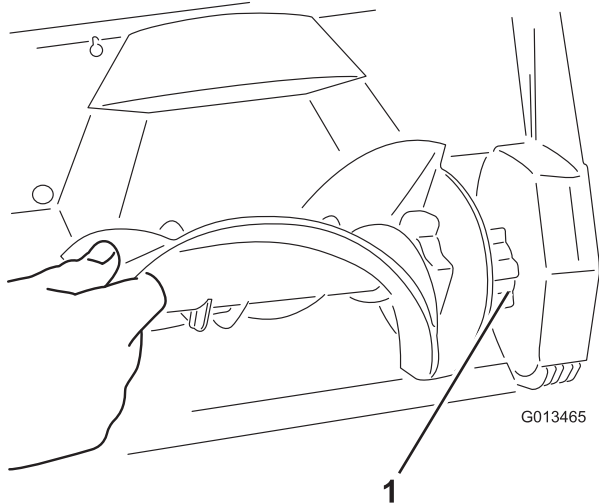

Figure 12
4. Install the new rotor by inserting the end of the rotor onto the fitted end in the housing and rotating the rotor until it snaps into place (Figure 12).